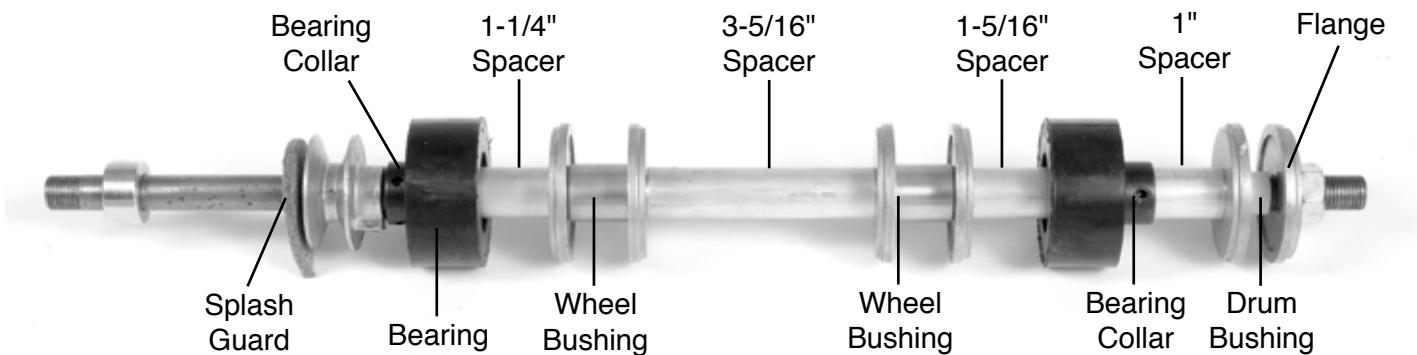

Fig 50 - Diamond wheel shaft assembly (shown without diamond wheels and polishing drum)
1. Install diamond wheels with the inside faces facing each other (fig 51 & 52). Be sure the diamond wheel bushings are installed (fig 50).